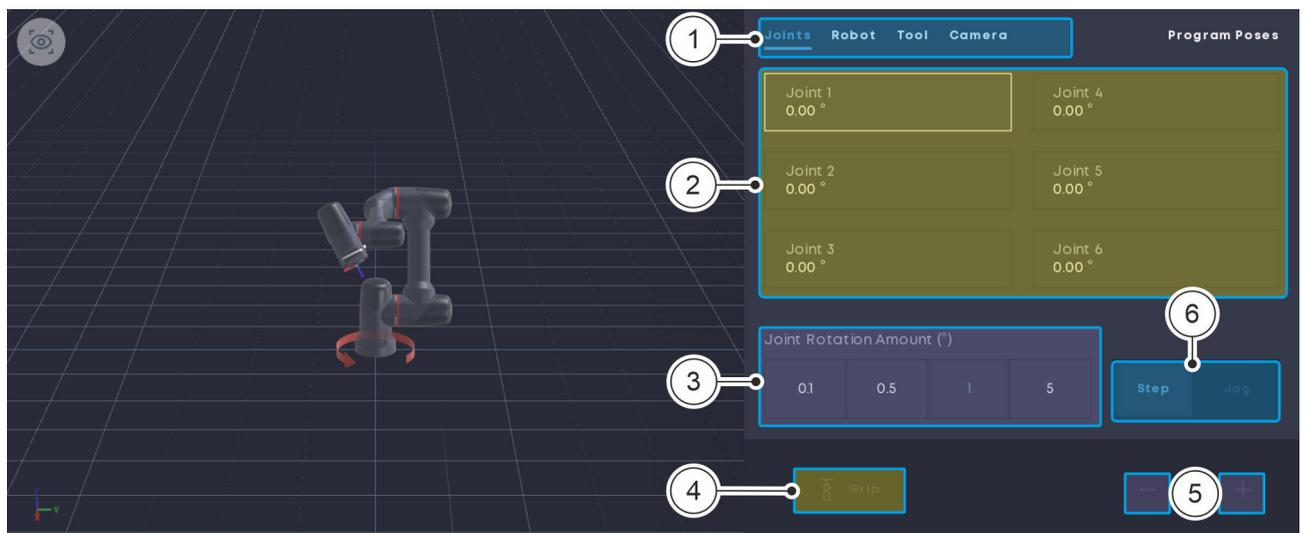

Fig. 32 ‘Control’ menu
- ▶ The ‘Control’ menu appears Fig. 32.
02. Select the desired coordinate system from the tabs Fig. 32 / ①.
03. Select the axis for which a movement is to be executed Fig. 32 / ②.
04. Select the movement method Fig. 32 / ⑥:
05. Select angular step size or angular velocity Fig. 32/③.
06. Click the plus or minus button to move the robot forward or backward along the selected axis Fig. 32/⑤.
To open or close the gripper unit connected to the media flange, click the 'Open' or 'Close' (Grip) button Fig. 32/④.